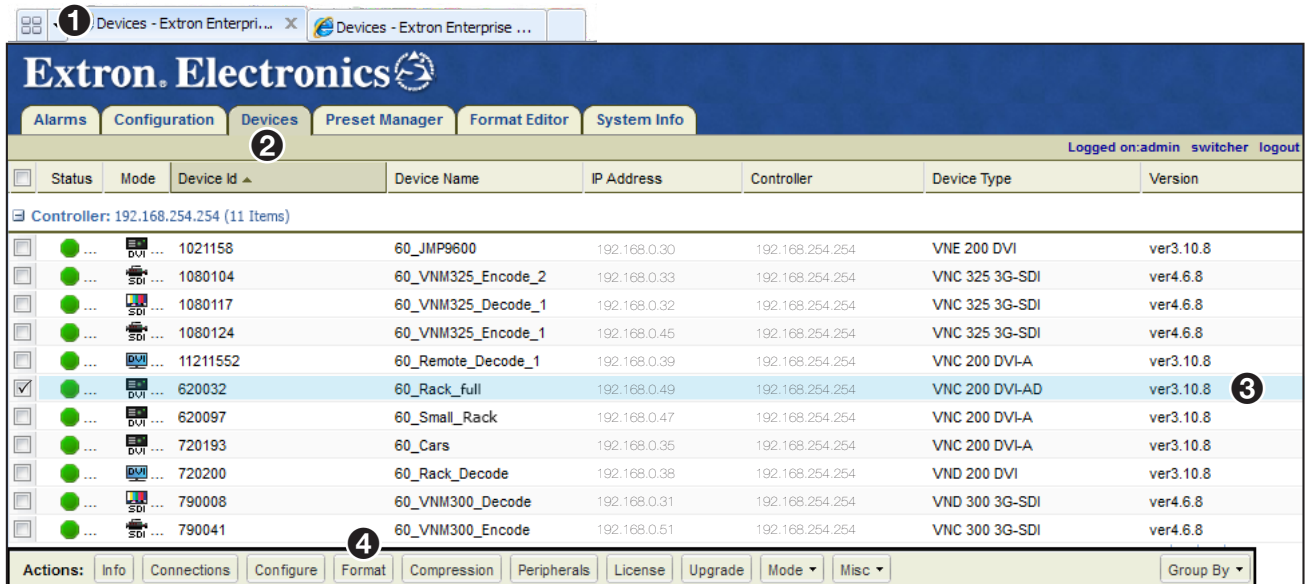

Figure 127. Devices Page
On the left tab (see figure 127, ❶) the **Devices** page opens (❷).
7. Choose the encoder connected to the VN-Matrix network in step 3 (❸).